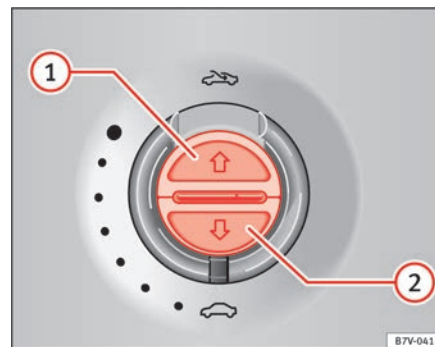

Fig. 60 On the interior roof lining: switches for the sunshade.
To open completely (automatic):	Press the button ⇒ fig. 60 1 briefly.
To stop automatic operation:	Press the button ⇒ fig. 60 1 or ⇒ fig. 60 2 .
To set the intermediate position:	Hold the button ⇒ fig. 60 1 or ⇒ fig. 60 2 until the required position is reached.
To close completely (automatic):	Press the button ⇒ fig. 60 2 briefly.
- *Sunshade*: Within five seconds of triggering the anti-trap function, push the ⇒ fig. 60 button until the sunshade closes completely.